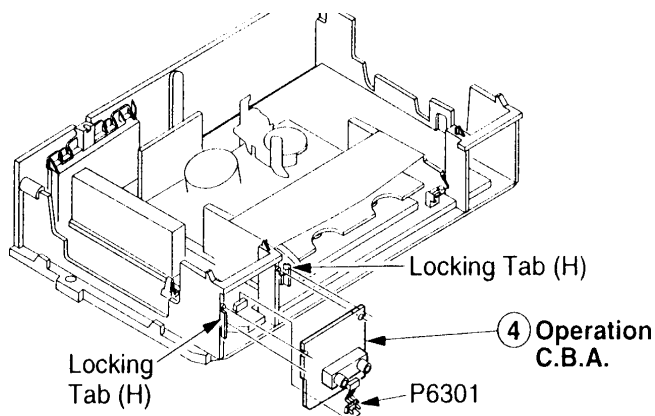

Fig. 6 - Operation Circuit Board (Model VR632HF) Removal
Operation Circuit Board Removal (Figs. 6, 7)**Model: VR632HF**
1. Release two (2) locking tabs (H) (Fig. 6).
2. Disconnect one (1) connector (P6301) on the Operation circuit board.